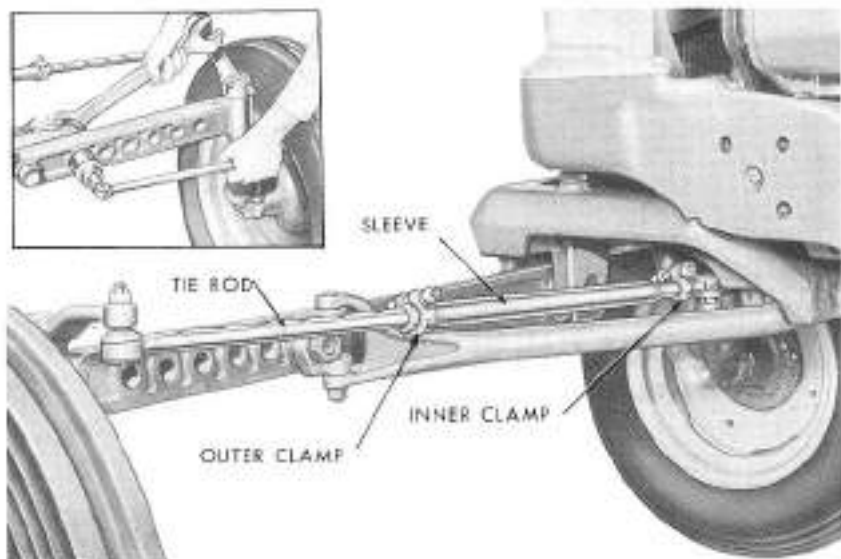
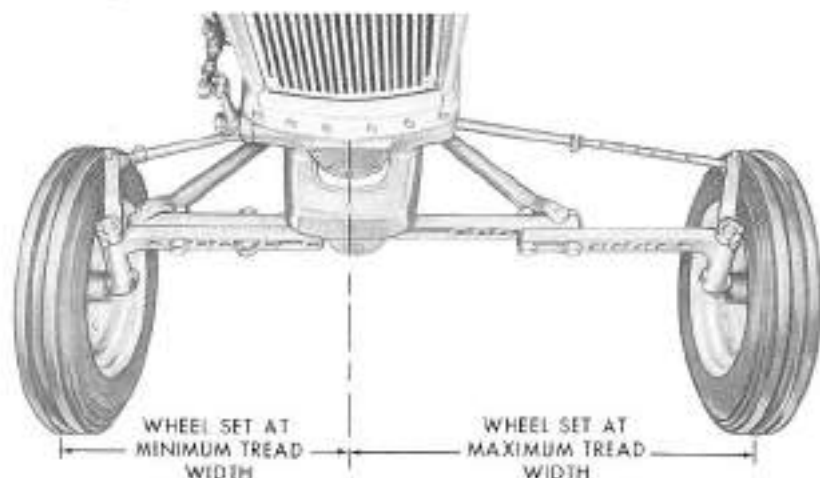

Figure 17
Figure 18
**Front Wheels, Adjustable Front Axle:** The front wheels are adjustable from 52 to 76 inches in approximately 4 inch spacings. To change the tread width, raise the front end of the tractor with a jack placed at the forward end of the transmission housing. Work on one axle section at a time and remove the hex head bolts, flat washers and nuts which hold the outer axle sections to the inner axle section. See insert, Figure 17. Next remove the hex head bolts, lockwashers and nuts
from the outer clamps shown in Figure 17 to release each tie rod from the locked position in its sleeve. Position the front wheels and tie rods in or out until the desired tread width is obtained. Figure 18 shows the correct minimum and maximum wheel tread adjustments. For intermediate tread adjustments, make certain that there is a minimum of *two bolt holes* between each axle bolt location.
Position the front wheels straight ahead and align the hole in each outer clamp (see Figure 17) with the groove in each tie rod which is nearest the outer clamp hole. Align and insert the clamp bolts to lock the tie rods in the sleeves. Secure both outer clamps with the lockwashers and nuts previously removed.